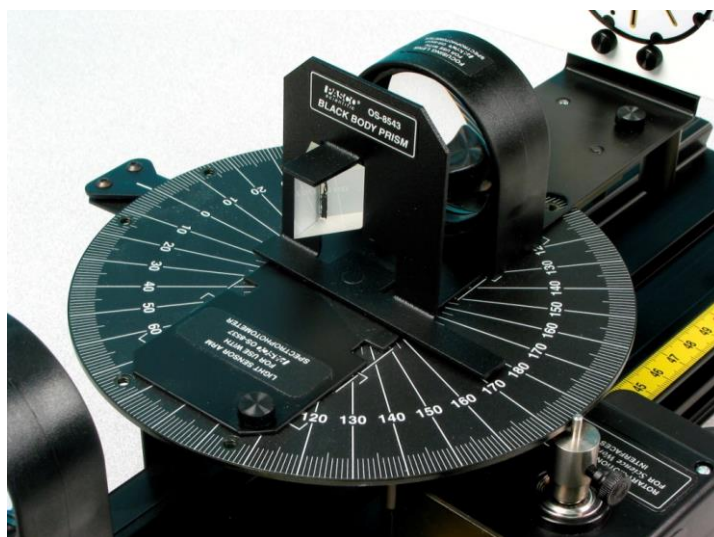

Figure 4: The prism apex should be oriented toward the light source.
1. Attach the Mounted Prism to the spectroscopy table by screwing it into the hole in the center of the table. Screw it down until it almost touches the table. *It is critical that the Mounted Prism does not touch the table so the table is free to move without moving the prism.* Orient the prism with its apex toward the light source as shown in Figure 4. The prism base must be perpendicular to the incoming light beam. To do this set, turn the table until the index mark is on 0° , and then set the base of the Mounted Prism so it lies along the 0° - 180° line on the table. Secure the prism in place using the wing nut and lock washer on the bottom of the bolt sticking through the spectroscopy table.